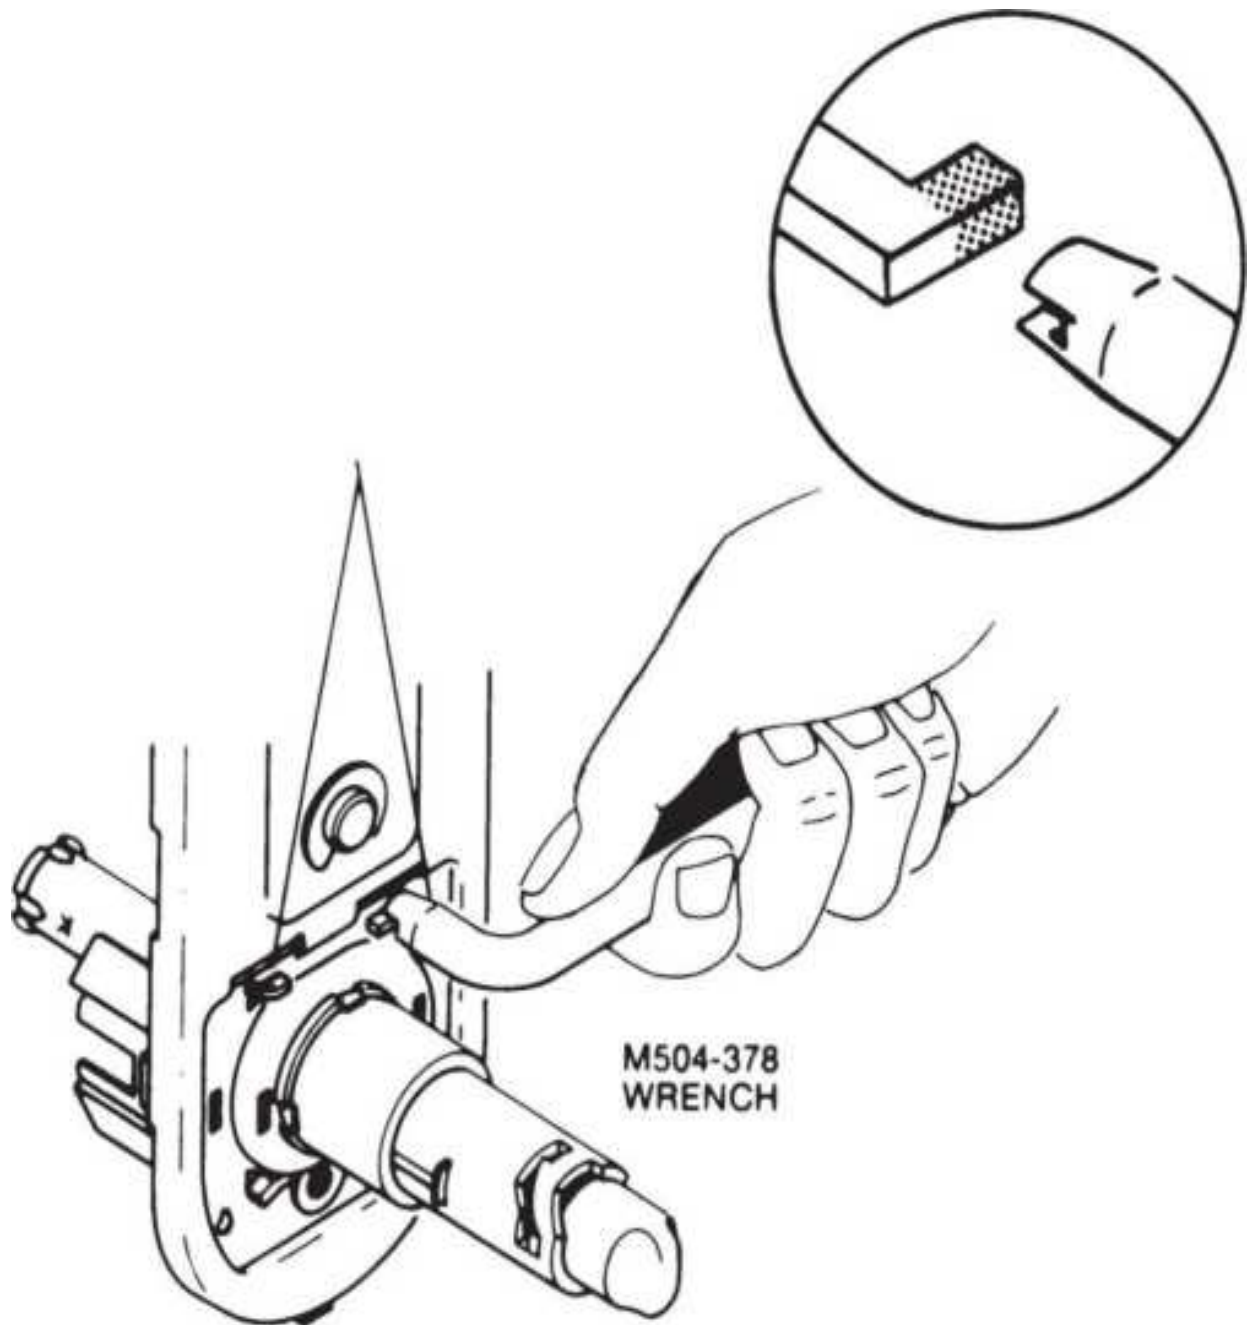

**Figure 13.77** Changing hand, Step 8.
8. Bend the tabs to secure the mounting plate (Fig. 13.77).